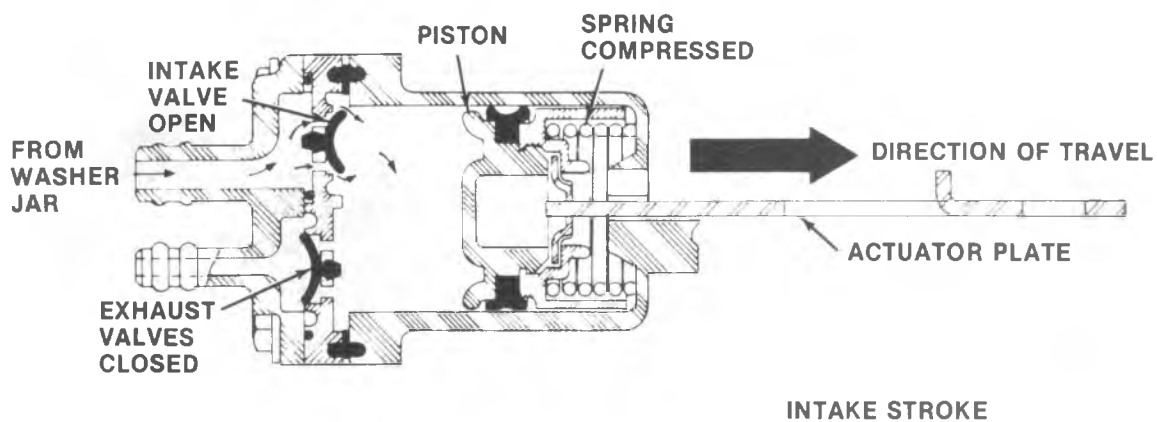

Fig. 8-25--Pump Operation
When the cam-follower moves in the direction indicated by the arrow in Fig. 8-25, the cam-follower pin, which extends through the piston actuating plate, pulls the actuator plate away from the valve assembly compressing the piston spring. As the piston moves away from the valve assembly, a vacuum is created in the cylinder which opens the intake valve, drawing washer solution into the cylinder (Fig. 8-25).
As the 4-lobe cam continues to rotate, the cam follower moves in the opposite direction described in the intake stroke. This permits the piston spring to expand which in turn pushes the piston toward the valve assembly creating pressure between the piston and valve assembly. This pressure "build-up" forces the two exhaust valves open compelling the washer solution to flow to the nozzles. See Fig. 8-25.
NOTICE: For purposes of explanation, only one exhaust valve opening is shown in Fig. 8-25.
1. A leg on the relay armature rides up a ramp located on the outer surface of the ratchet gear. When the leg reaches the top of the ramp, it moves over the top edge of the ratchet gear. This action allows the ratchet gear pawl to re-enter the armature opening preventing further rotation of the ratchet gear until the next time the relay coil is energized from the washer button. (Refer to Fig. 8-25 for position of armature leg while pump is idling.)